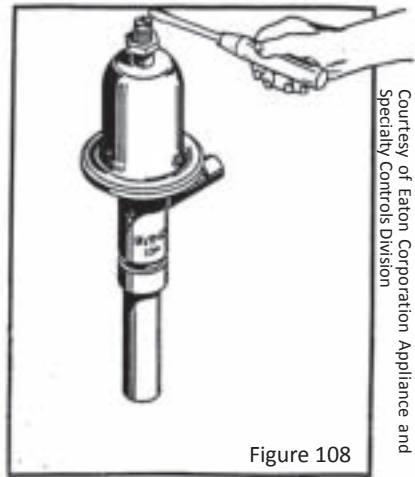

Figure 108
2. Automatic expansion valve (AEV) (fig. 108)